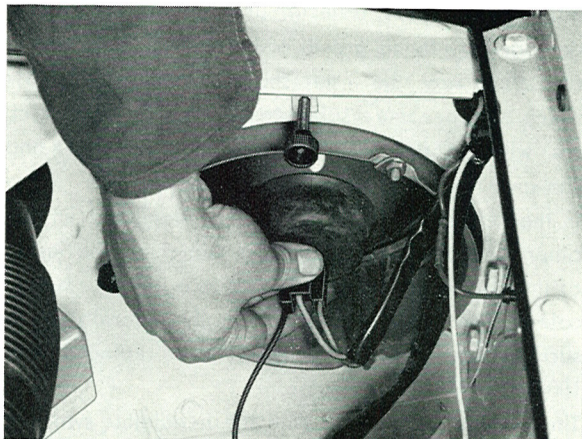
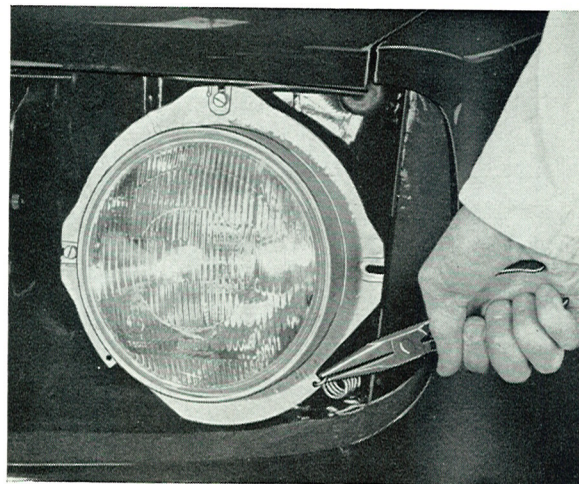
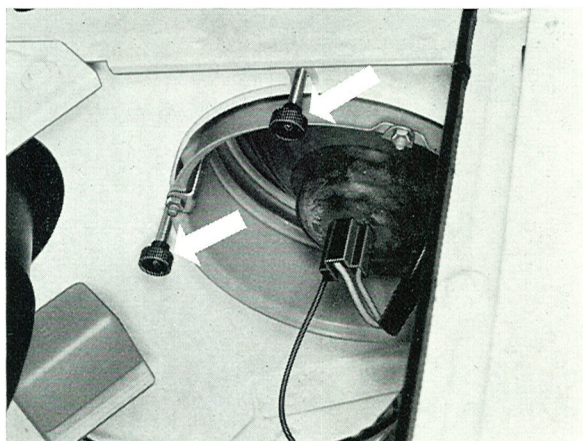

Fig. 3-60. Removing the connecting contact
Fig. 3-62. Removing the spring
Fig. 3-61. Adjusting button
1. Remove the grille. Disconnect the connecting contact for the cables by pulling it straight back. See Fig. 3-60. Remove the two adjusting buttons by pulling them straight back, see Fig. 3-61. Unhook the spring on the lower side of the headlight. See Fig. 3-62.
Adjustment is made by varying the two adjusting screws behind the headlight, see Fig. 3-61. The upper screw adjusts the headlight vertically and the screw at the side adjusts the headlights laterally.